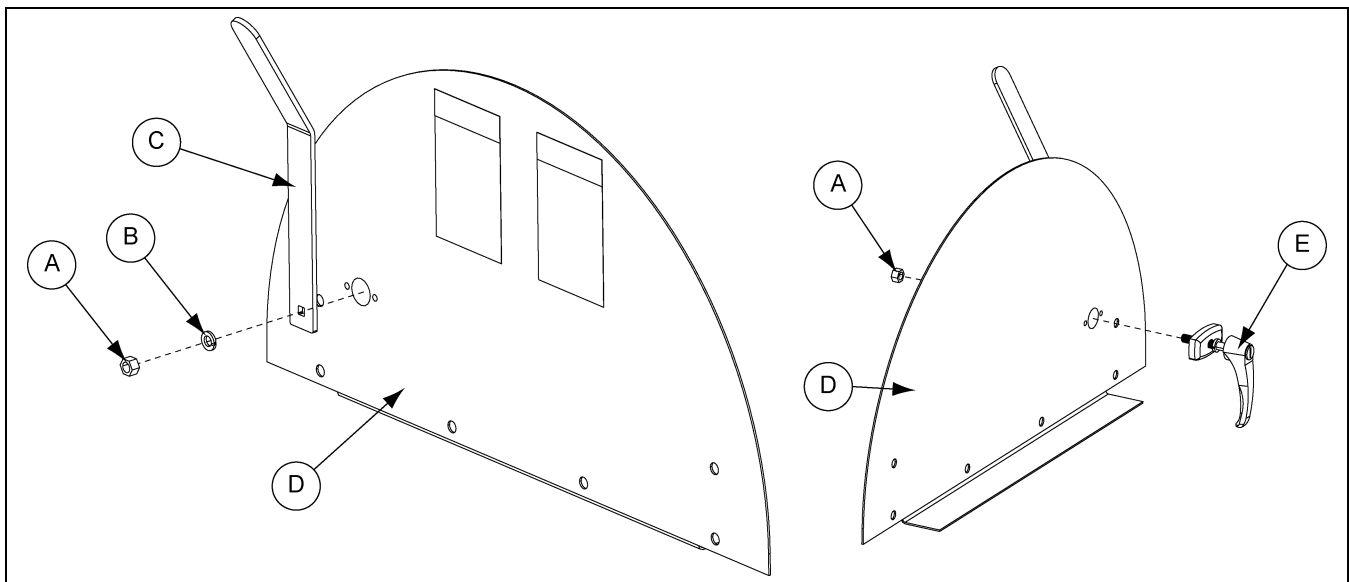

Figure 2
1. Install the louvered door latch handle (C) and the locking door handle (E) at the same time to the top panel (D) using 3/8" washer (B) and nut (A). (See Figure 2.)